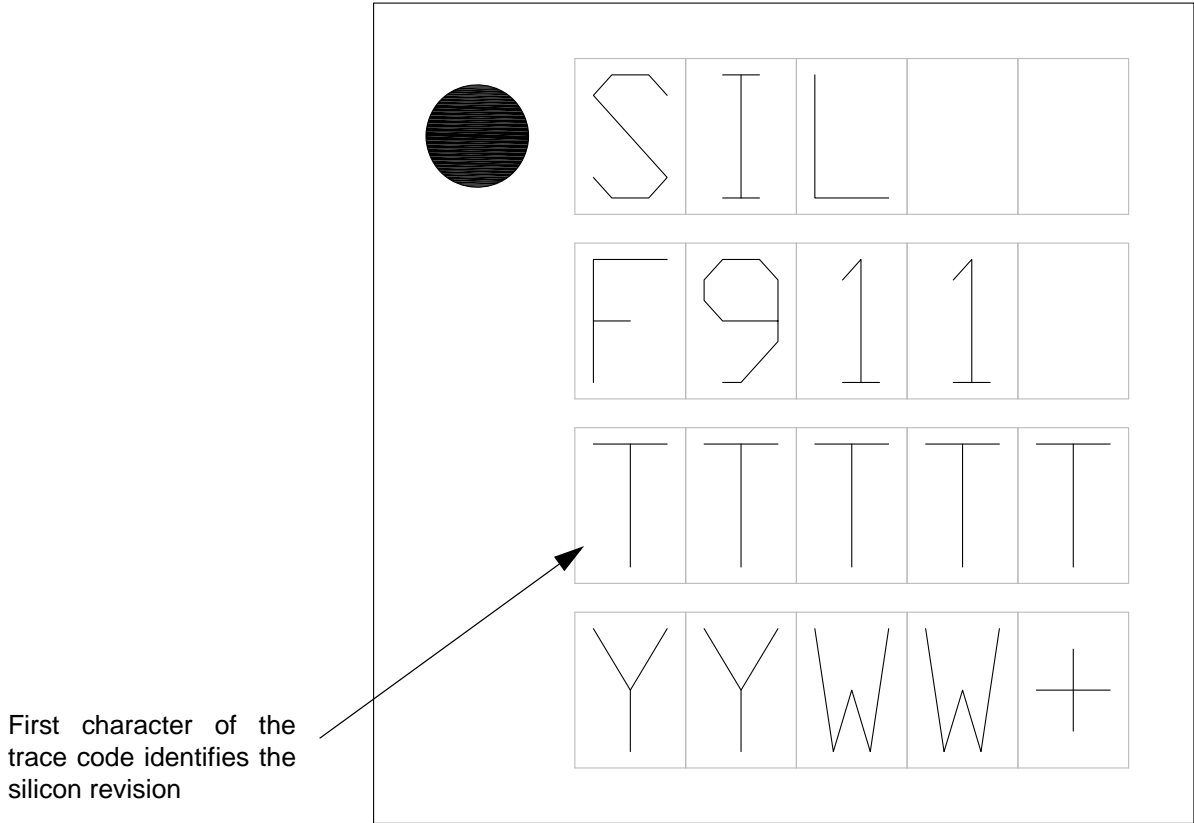
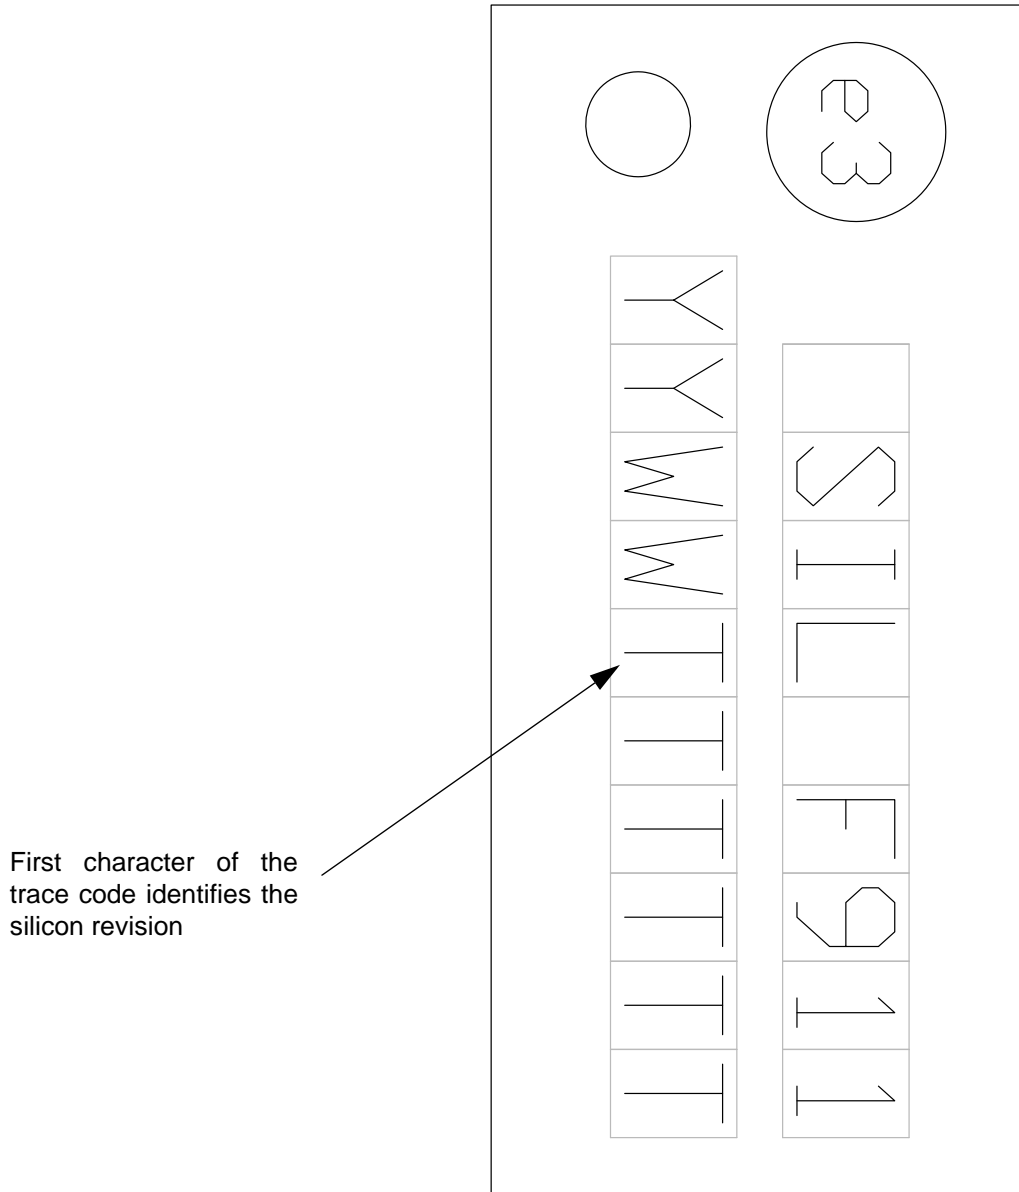

Figure 3.3. QFN-24 Package Marking Diagram
Figure 3.4. QSOP-24 Package Marking Diagram
- Starting with silicon revision C, the ordering part numbers have been updated to include the silicon revision and use this format: "C8051F912-C-GM". Package marking diagrams are included as Figure 3.3 and Figure 3.4 to help identify the silicon revision.